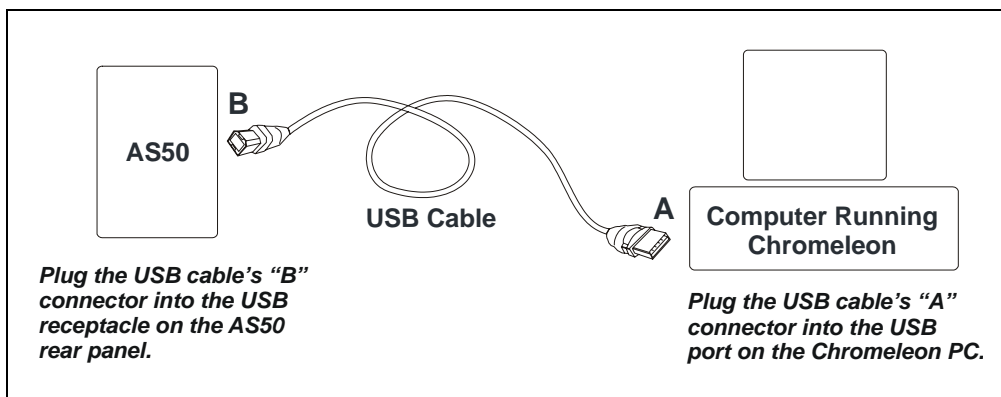

Figure B-8. Connecting the AS50 Directly to the PC
2. Connect the cable between the AS50 and computer as shown in Figure B-8.